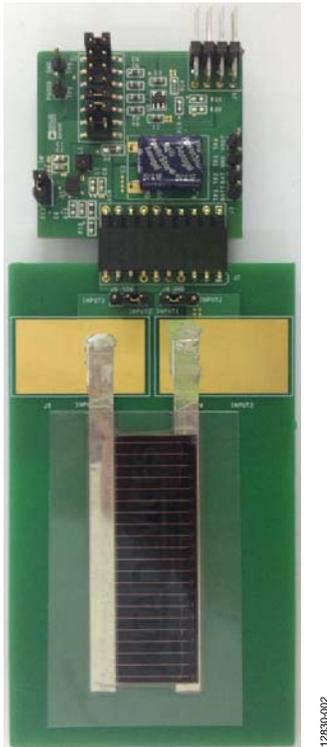

Figure 2. ADP5090-2-EVALZ Hardware
1. Connect the 10-pin connector on the solar panel to the J3 10-pin connector on the ADP5090 as shown in Figure 2.